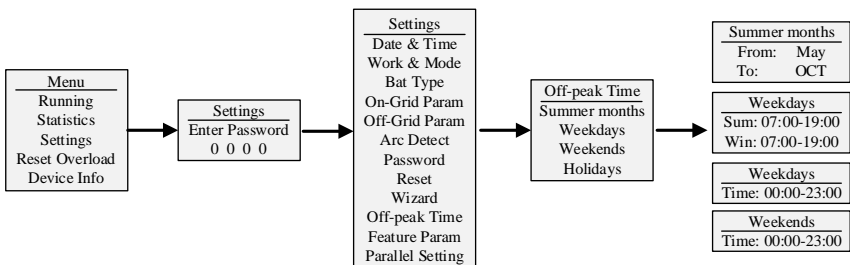

Fig.7-6 Setting the charge and discharge time
Step 7: Set the charge and discharge time for the battery. The months and time are the default values in Fig. 7-6.